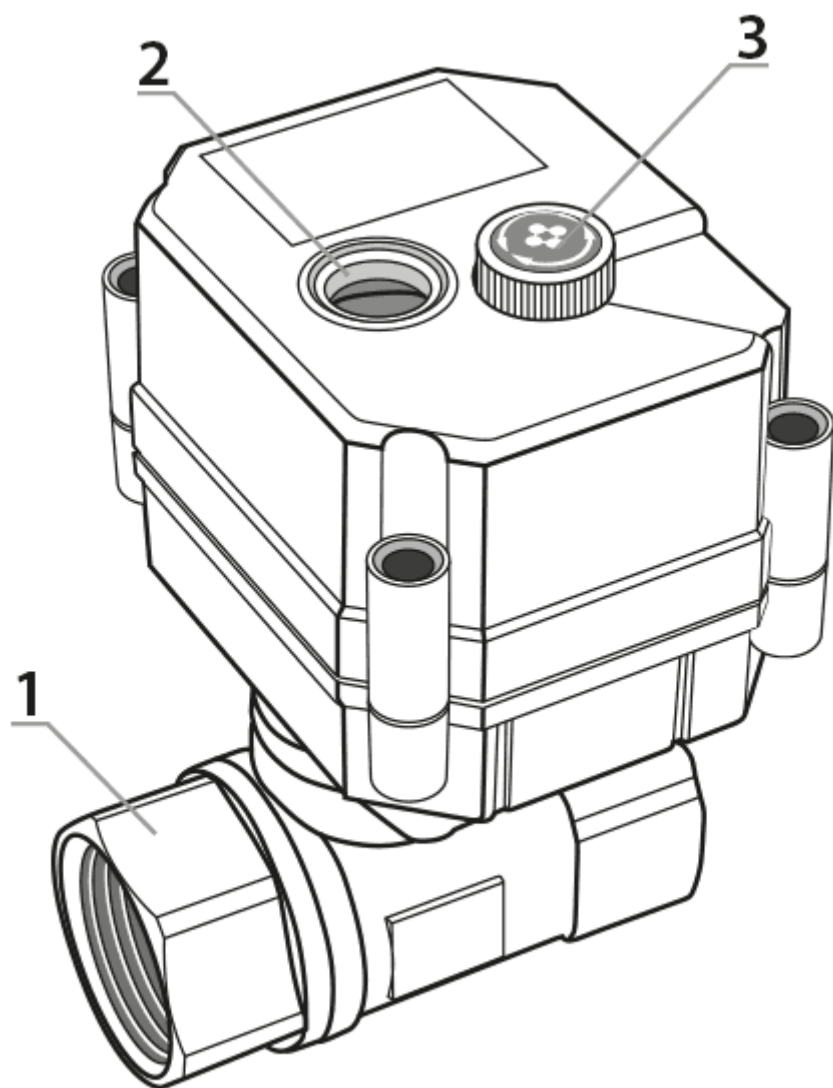
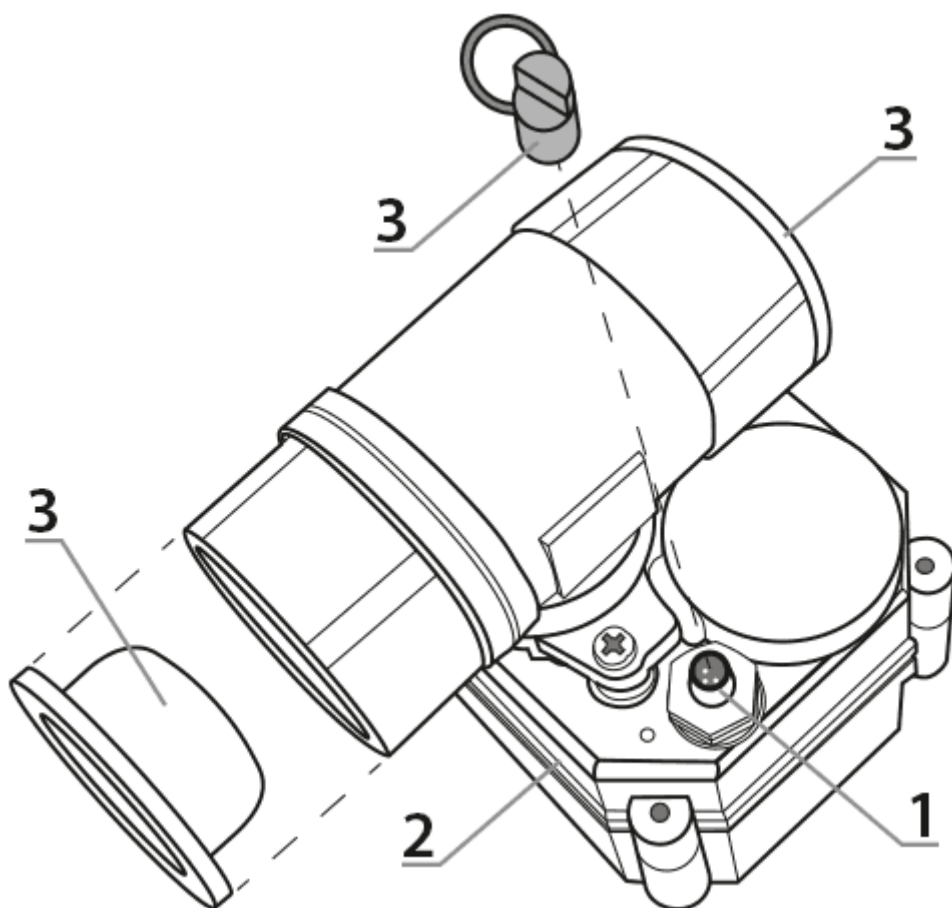

Fig. 1.
Fig. 2.
The valve must be installed in such a place that in case of flooding detection it would cut-off the desired area or entire system (depending on your needs). The valve must be installed on a water pipe, ensuring the access to the magnetic sensor (Fig. 2, pos. 2), the power/charging socket (Fig. 2, pos.1) and to the manual opening knob (Fig. 1, pos. 3). If problems occur during installation, you can separate body with electronics from the body of the valve as shown in Fig. 4.